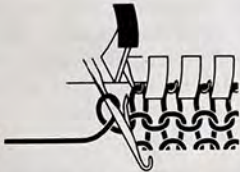

Fig. 46
- a) Increasing one stitch at left. Lock at left. At left put one needle in rest-position and wind yarn around according to fig. 46, taking care that the loop is placed behind the open latch. Put corresponding sinker in rest-position. Return new needle to yarn receiving-pos. fig. 46 and move lock to right.